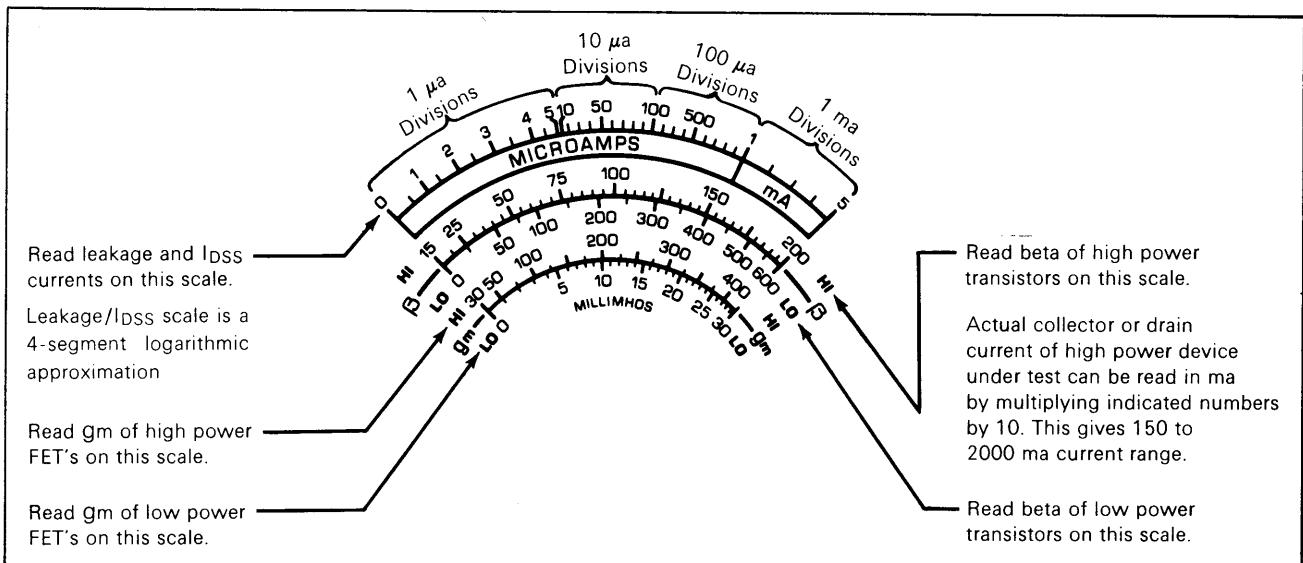

Fig. 2. Leakage/gain meter scales.
6. In performing beta and G_m tests of transistors and FET's, it is possible to determine the collector or drain current for power devices under the test conditions, by reference to LEAKAGE/GAIN meter. The HI power beta scale is proportional to the amount of collector current (for transistors) or drain current (for FET's) under test. The 0-200 scale of the HI range can be converted to actual milliamperes by a multiplication of ten. In other words, the full scale reading of 200 corresponds to 2000 milliamperes, or 2 amps. Refer to Fig. 2 under "CONTROLS AND INDICATORS" for detailed LEAKAGE/GAIN meter scale details.
Indicator for all out-of-circuit leakage and gain measurements. (See Fig. 2.)